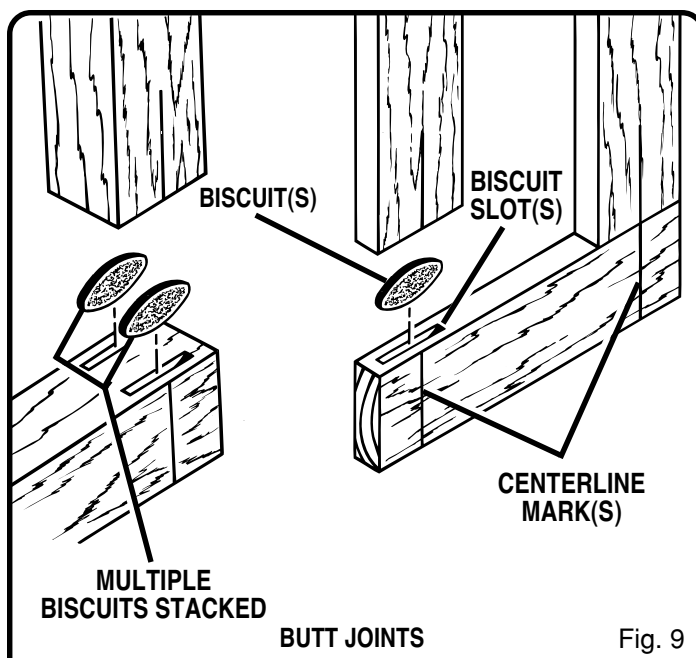

Fig. 9
When joining 1-1/2 in. thick materials, stack two biscuits, one above the other. For example, joining 2 in. x 4 in. dressed lumber. See Figure 9. When joining even thicker materials, use additional biscuits, stacked above each other.
See Figure 9.
15. Finally, disassemble the workpieces and place a bead of glue in each slot. Also, spread a bead of glue over the entire surface of the joint. Reinsert the biscuits and assemble the workpieces. See Figure 9.